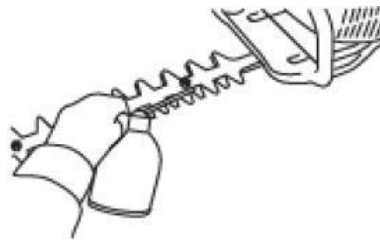

Fig. 12a
- Use machine oil bottle to apply lubricating oil on the blade. (Fig. 12a)